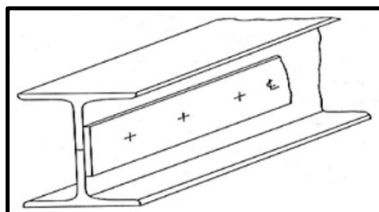

FIGURE 4.2
- 4.2 Identify the template shown in FIGURE 4.2 below.